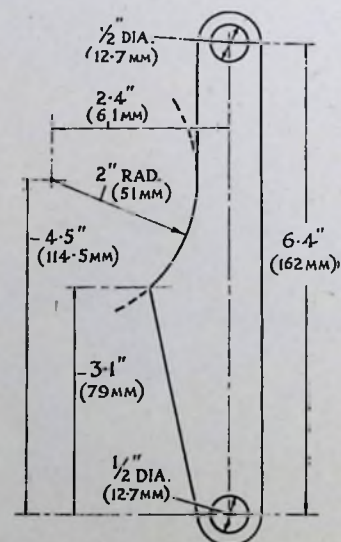

FIG. 51.—Dimensions of clamp plate for solenoid spring. (Make from steel plate at least $\frac{3}{8}$ " (9.5 mm.) thick.)
Fit return spring (90), 3-4 shims (91) and plug (92); clamp flush with suitable plate (see Fig. 51). Apply tension to cable with spring balance and suitable adaptor threaded $\frac{1}{4}$ " U.N.F. to screw on to cable. When baulk faces "A-A" meet, the spring balance should read 18-22 lb. Add or subtract shims to correct as required (one 005" shim varies tension by approximately 1 lb. Re-check tension.